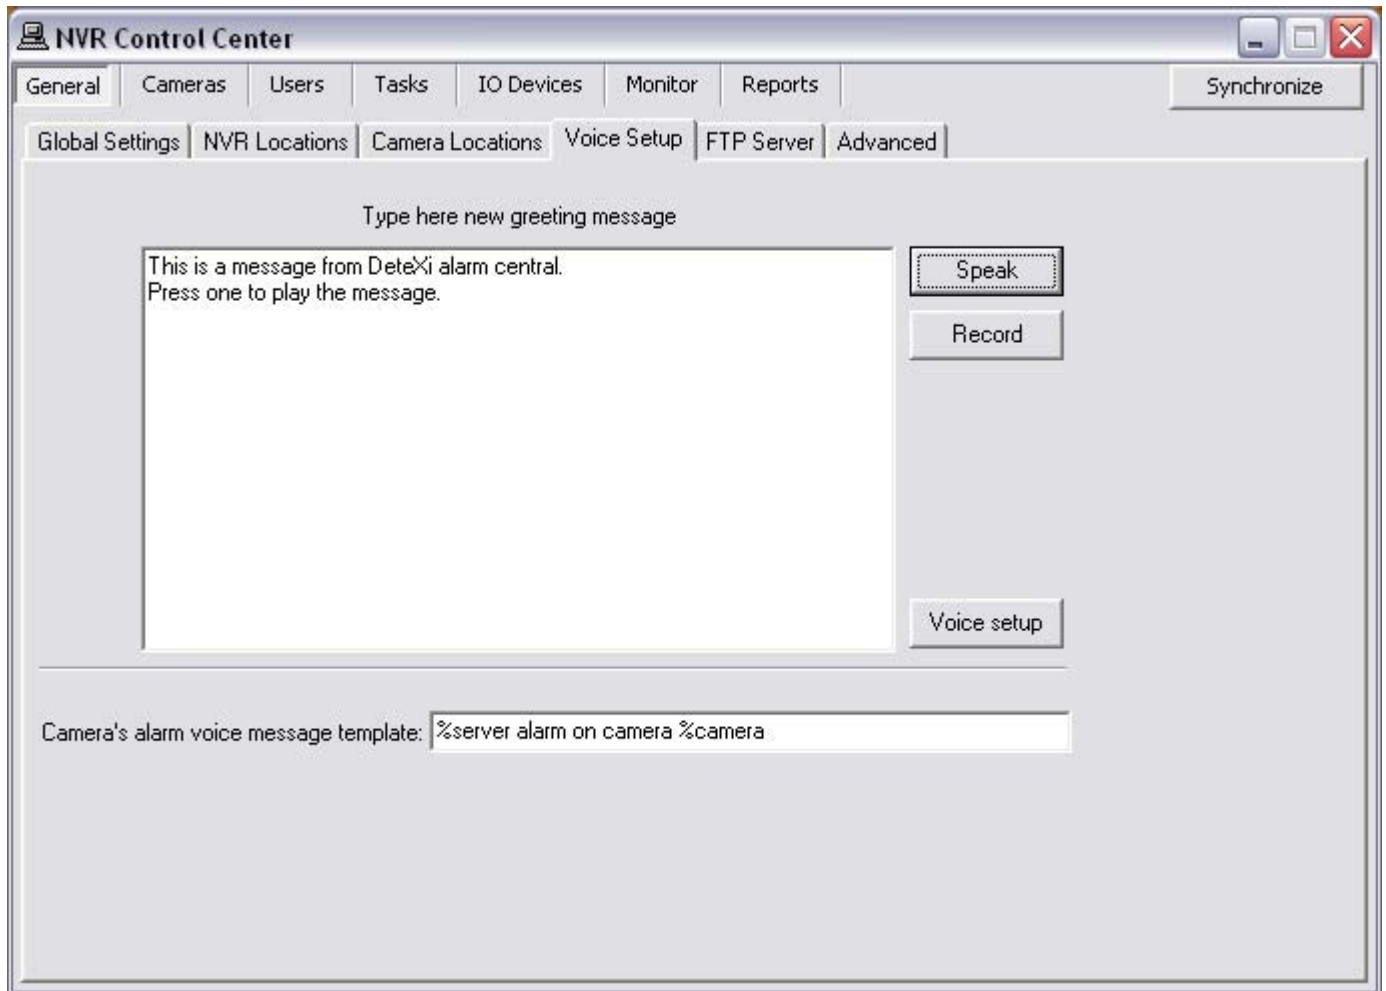

Fig 24. NVR Control Center — General — Voice Setup
1. In the **NVR Control Center — General — Voice Setup** click on **the Voice Setup** button to launch the **Alarm Server** to configure voice type, speed and sound file format (Fig 24).